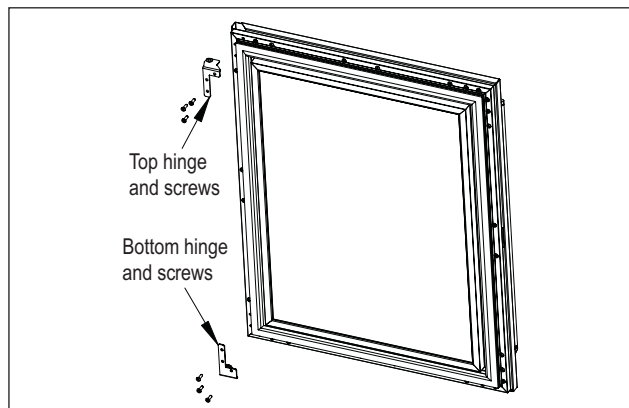

Figure 9. Door Hinges
10. Attach the top and bottom door hinges using screws removed in step 6 (Figure 9).